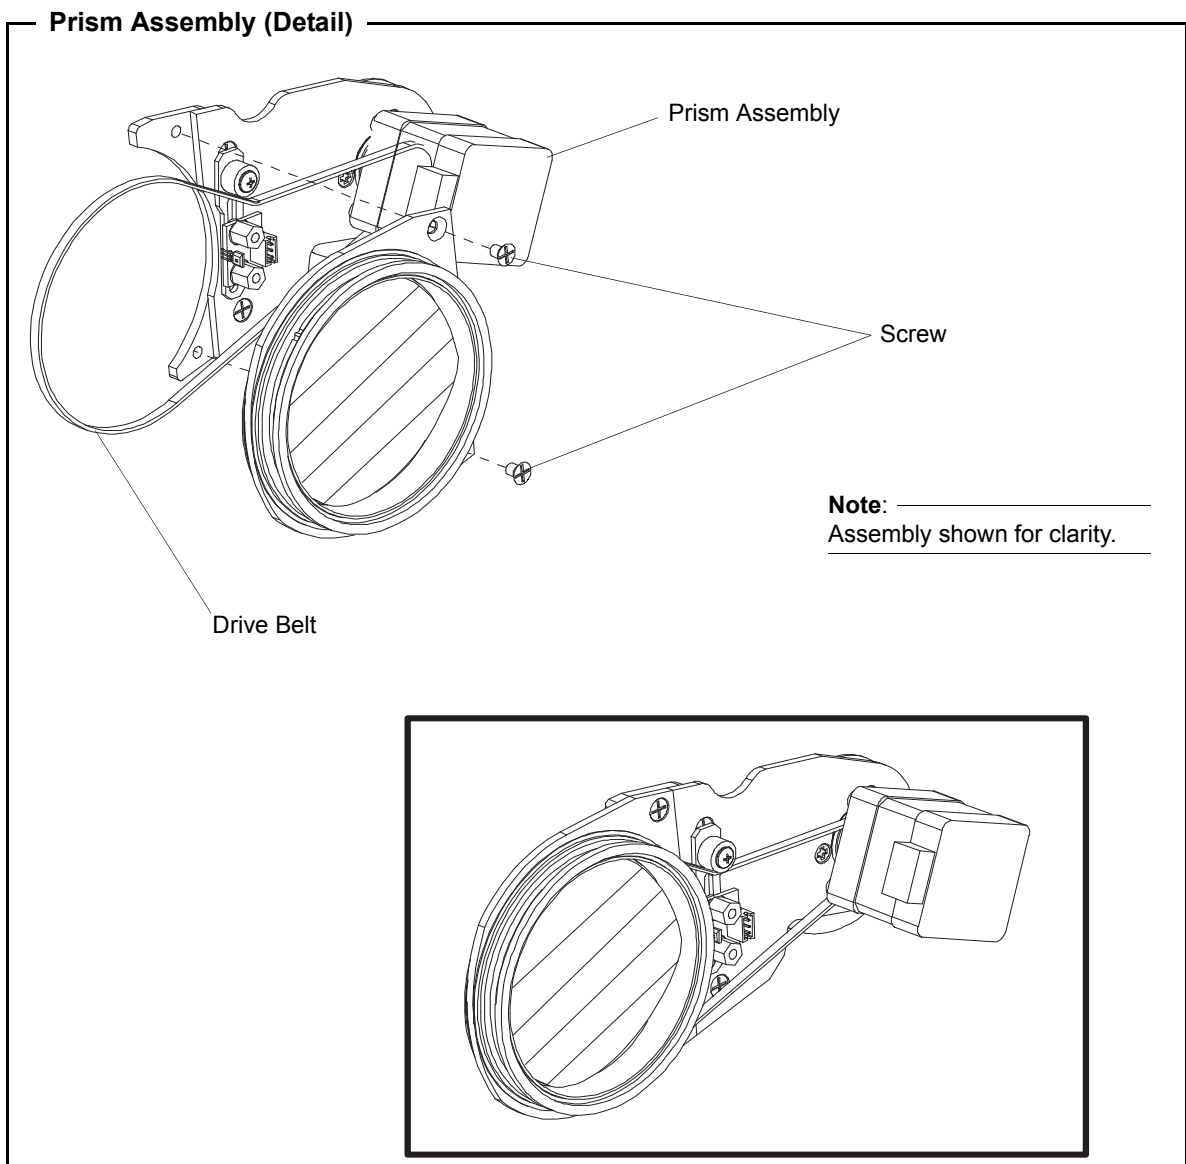

Figure 2-13: Prism Assembly Detail
- Step 6. As indicated in Figure 2-13 remove two screws securing prism to arm. **IMPORTANT!** Be careful not to lose removed screws. These will be required for reassembly and installation.